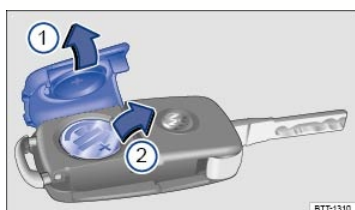

Fig. 23 Remote control vehicle key: Opening the battery compartment cover and removing the old battery.
The battery is on the back of the remote control vehicle key under a cover ⇒ Fig. 23①.
- Remove the cover on the back of the remote control vehicle key ⇒ Fig. 23① in the direction of the arrow ⇒ ①.
- Use a thin object to pry the battery out of the battery compartment ⇒ Fig. 23②.
- Position the new battery in as shown and press it into the battery compartment (opposite direction of the arrow) ⇒ ①.